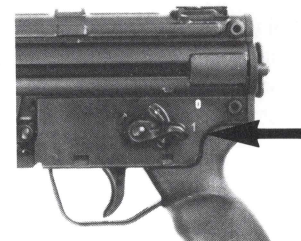

Figure 11
8. Align the pistol with your target. Depress the thumb piece of the safety until it stops at its detent stop aligned with the red number "1" (Figure 11).